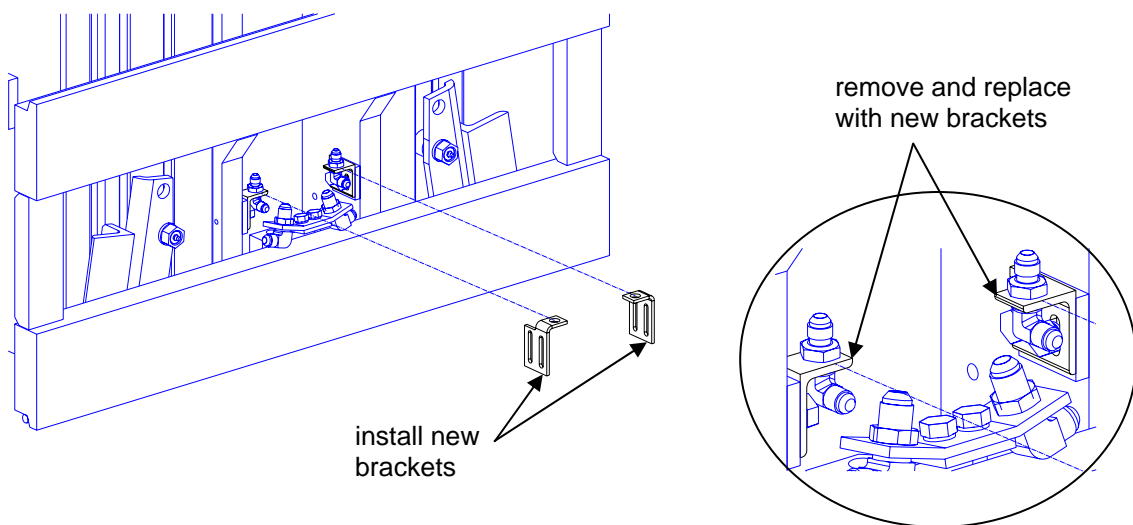

Figure 3
2. Replace existing brackets holding #6 90° hose fittings to carriage assembly with new brackets (items 5 and 6) with longer adjustment slots (see Figure 3). M8 hardware for mounting bracket to be torqued to 20Nm (177 in-lbs).